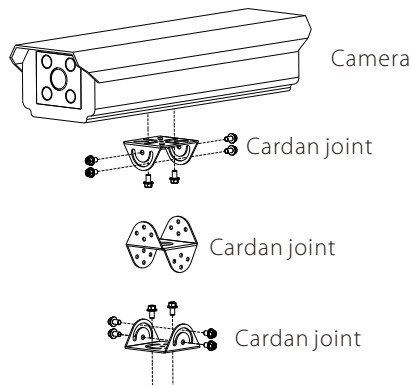

Figure 5
Step 6: Place the sponge mats on column 1, fasten the cardan joint and install the camera as shown in figure 5, 6.